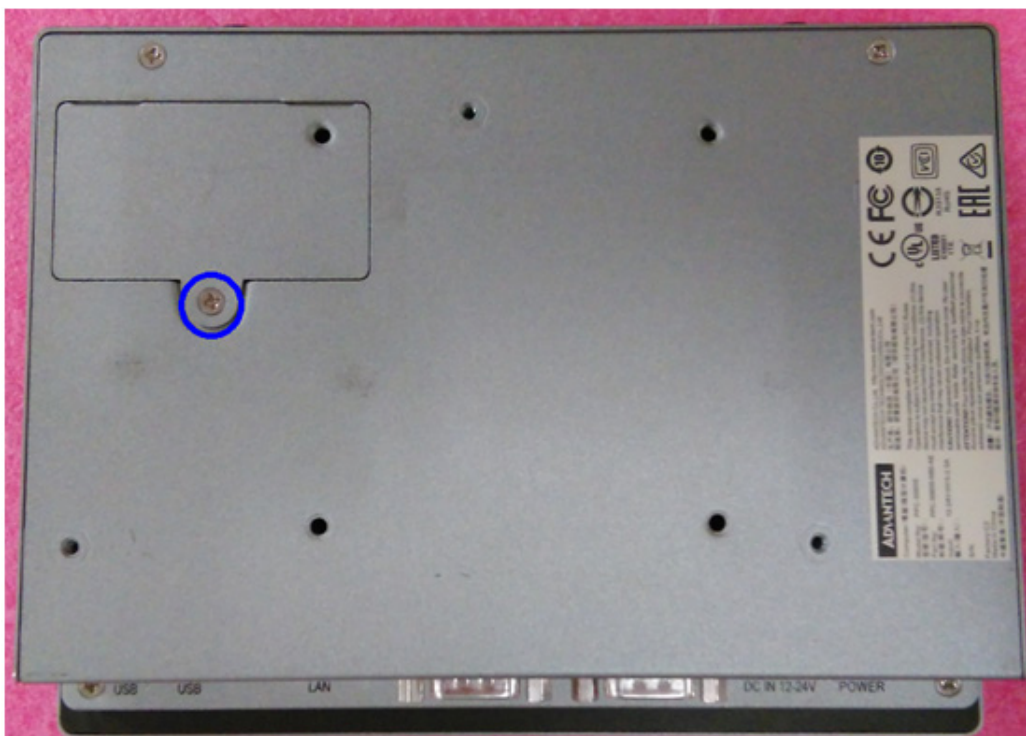

Figure 2.11 Removing the mSATA Door
4. Loosen the screws on the mSATA door (See Figure 2.11), then remove the mSATA door.
1. Loosen the screws on the mSATA door (See Figure 2.11), then remove the mSATA door.
3. Assemble the mSATA door with screw (See Figure 2.11), then complete installation of mSATA.